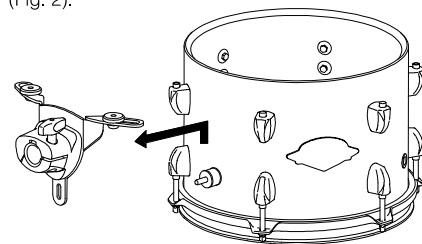

Fig. 2
2. Lift and remove the Opti-Loc from the drum as shown (Fig. 2).